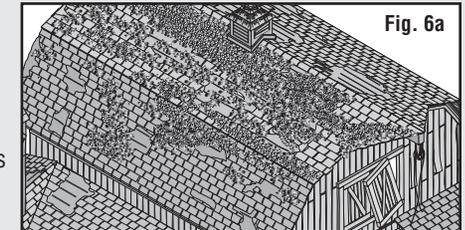

Fig. 6a
- Sprinkle on desired amount of Turf and press into glue (**Fig. 6a**). Let dry thoroughly.